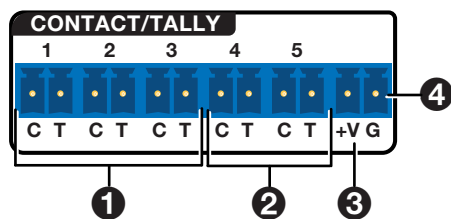

Figure 8. CONTACT/TALLY Ports
To identify the currently selected input when the front panel buttons are not visible, connect a device such as an LED to the CONTACT/TALLY connector and to the +V connector (see figure 8, **3** on the next page). When the input being used is selected, the corresponding Tally Out pin shorts to ground, activating the connected indicator.
- **Ports 1-3** (see figure 8, ❶) — These can be configured as a mutually exclusive input group to allow for input switching via Show Me (SM) cables. The selected input tally illuminates steadily when displayed, or blinks when muted.
3. Insert the power wires for the contact indicator devices into the +V connector (see figure 8, ③ on the previous page).